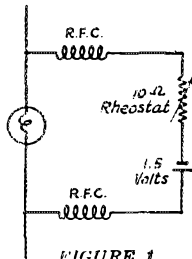

FIGURE 1
**T**HERE are many who are employing receiving tubes for low power transmission and don't feel that they should spend as much for a radio frequency ammeter to measure the antenna current as they have spent for the entire transmitter itself but who would, nevertheless, like to have some idea as to how much current is flowing in the antenna circuit. A simple arrangement may be arrived at which will allow quite small amounts of radio frequency current to be measured and is shown in Figure 1.